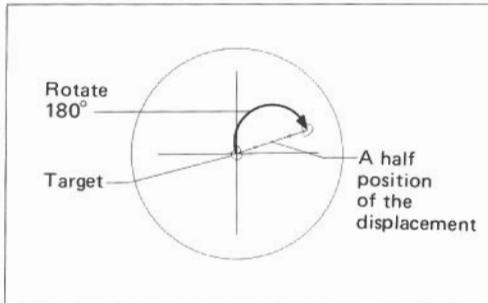

Fig. 15
- 3) Rotate the stage about 180° , and the target is displaced from the center of the cross lines. Move the objective using the centering tools so that the center of the cross lines comes to one half position of the displacement of the target. (Fig. 15)